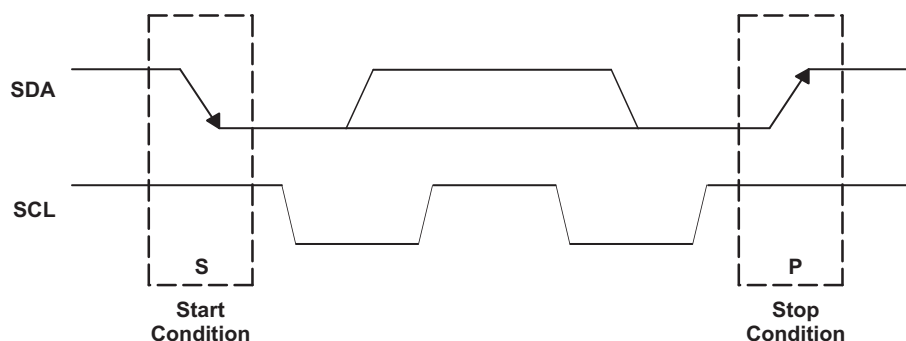

Figure 5. I2C Start and Stop Conditions
Figure 5 shows the basic I2C start and stop access cycles.
- The *master* initiates data transfer by generating a *start condition*. The *start condition* exists when a high-to-low transition occurs on the SDA line while SCL is high, as shown in Figure 5. All I2C-compatible devices should recognize a *start condition*.